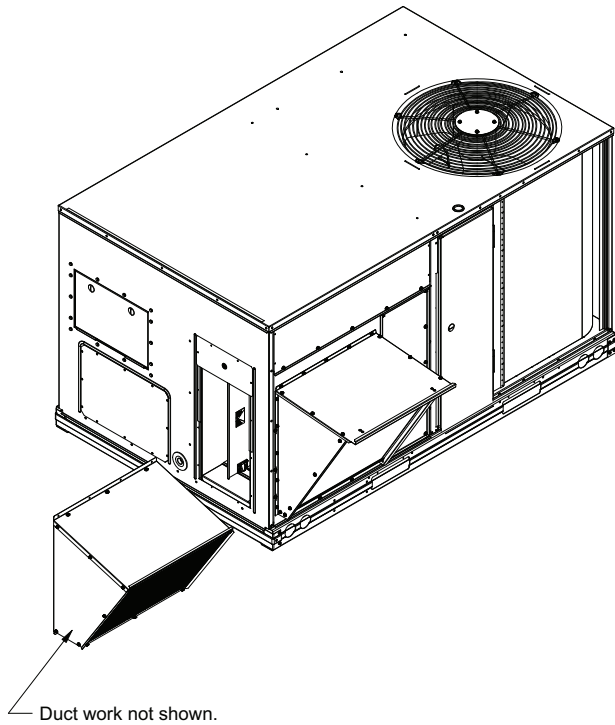

Fig. 8 — Attach Relief Damper Hood Assembly to Return Duct
13. Install provided barometric relief hood on field installed R/A duct ensuring it is water tight. (See Fig. 8.)